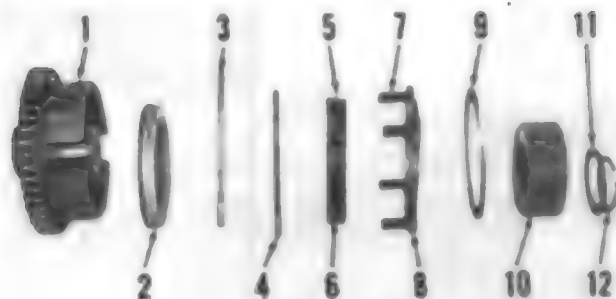

Fig. 165—Exploded view of typical pto clutch and component parts.
7. Return springs (2)
pair of "C" clamps, compress the piston return springs and remove snap ring (2). Then, remove clutch, backing plate (8—Fig. 165), return springs (7), driven discs (6) and drive plates (5). There are two driven plates between each clutch disc. Clutch is equipped with eight driven plates, five clutch discs and six return springs.